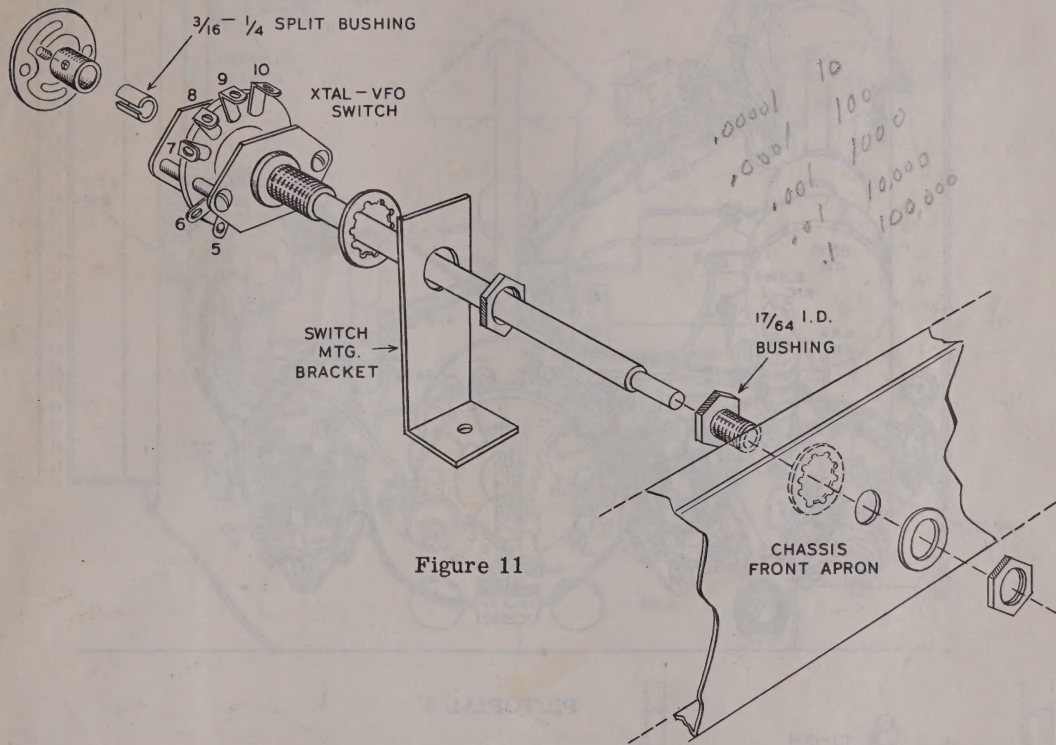

Figure 11
- (✓) Prepare the XTAL-VFO switch for mounting by connecting two $6\ 1/4$ " blue wires to terminals 1 and 2 (S). Refer to Pictorial 7 for terminal identification.
- (✓) For actual mounting, refer to Figure 11. While mounting the switch, guide the two blue wires through the $5/16$ " grommet adjacent to the switch and leave the other ends free.
- (✓) Connect the green wire coming through the Spirashield to terminal 5 of the XTAL-VFO switch (S).
- ✓ Install the mounting plate and potentiometer just in back of the XTAL-VFO switch and couple the two units together as shown in Figure 12. Use the split bushing over the switch shaft to fit the insulated coupler as indicated in Figure 11. Use 6-32 hardware to mount the plate and tighten the plate to the chassis before tightening the coupler set screws. Care should be used to prevent damage to the RF choke immediately behind the potentiometer.
- ✓ Again, refer to Pictorial 7 and connect the free end of the 6.8 K Ω resistor (blue-gray-red) to terminal 3 of the driver potentiometer (S). Position leads as shown.
- ✓ Connect the free end of the orange wire coming from pin 6 of the 5763 socket to terminal 2 of the drive control potentiometer (S).
- ✓ Connect a .005 μ fd disc ceramic capacitor from this same solder lug (S) to the adjacent 1-lug terminal strip (NS).
- ✓ Connect the free ends of the green wire and the 27 K Ω resistor to the 1-lug terminal strip (S).
- ✓ Refer now to the clamp potentiometer and the adjacent terminal strip in the upper right hand corner. The violet wire coming out of the cable at point 4 should connect to terminal 3 of the potentiometer (NS).
- ✓ Connect a 5.55 Ω shunt resistor from terminal 3 of the potentiometer (S) to lug 3 of the terminal strip (NS). Arrange this resistor to clear the small hole in the chassis.
- ✓ Connect a .005 μ fd disc ceramic capacitor from lug 2 of the terminal strip (S) to lug 3 of the terminal strip (NS).
- ✓ Connect the brown and green wires at point 4 of the cable to lug 3 of the terminal strip (S).
- ✓ Connect a 470 K Ω resistor (yellow-violet-yellow) from lug 1 of the strip (NS) to terminal 1 on the potentiometer (S).